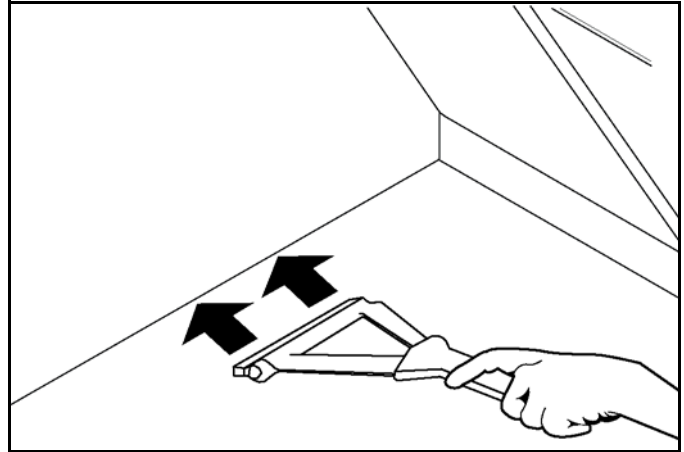

Figure-187
24. Squeegee the grill cleaner into the grease cans. See Figure-187.